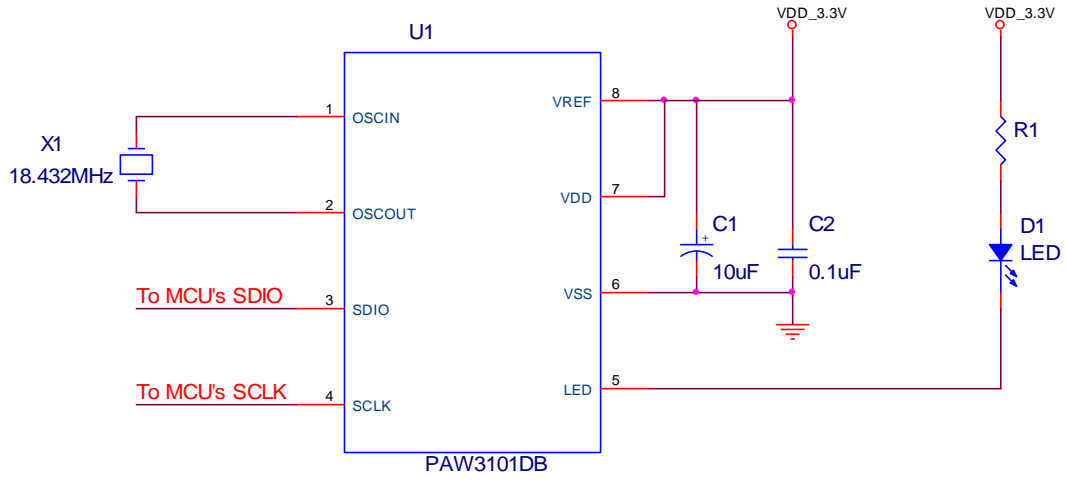

Figure 13. 3.3V Application Circuit with Internal LED Control
- R1 value (ohm) for internal LED control, VDD = VREF = VDD_LED = 3.3V (refer to Figure 13)